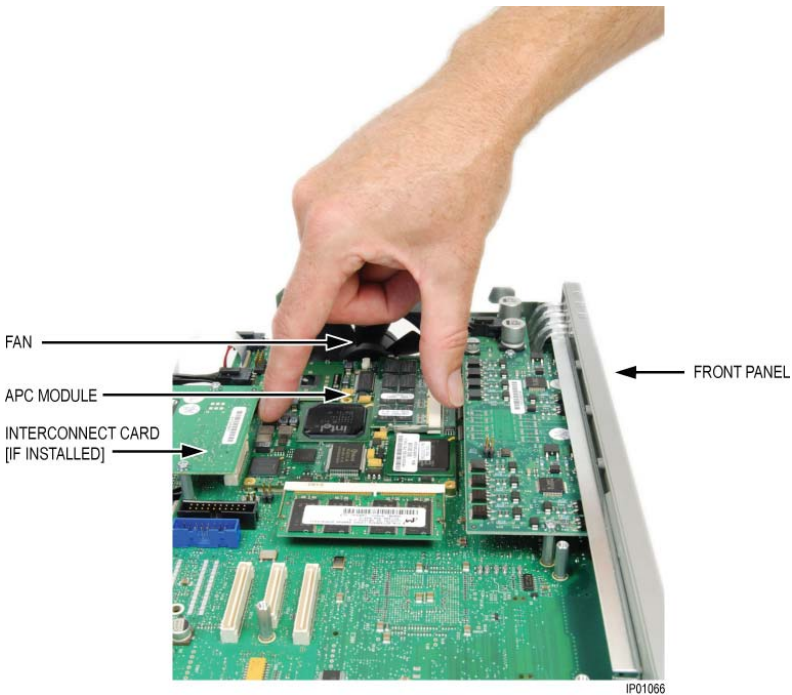

Figure 60: Seat APC Module Connectors onto Main Board Connectors
3. Place the APC module on the main board connectors. The connectors are spaced irregularly to assist in alignment. Orient the module as show in Figure 60.